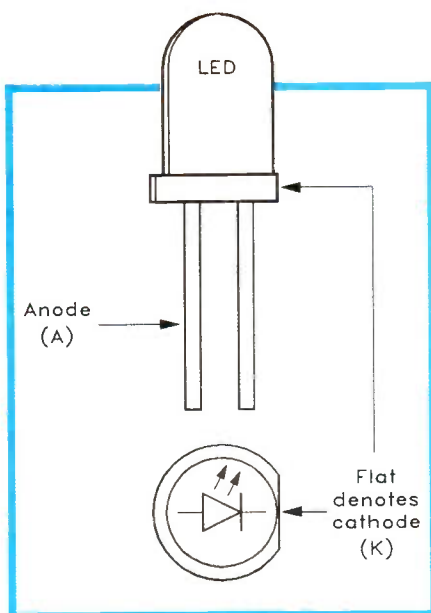

Figure 4. LED symbol and connections (LD1, LD2).
b) Next fit the LEDs, LD1 and LD2, which are both of the same type. Each is a 'blob' of clear red plastic, with two wires coming out of one end. They are fitted in the positions shown on the guide-sheet, and *must* be connected the right way round – or they will not light up. One side of each LED is flattened (the lead on this side of the LED is known as the cathode (K), while the lead on the other rounded side, is called the anode (A)). The LED, the circuit symbol and connections are shown in Figure 4. Make sure that the LEDs are fitted so that the 'flattened' sides line up with the drawing of the LED printed on the guide-sheet.